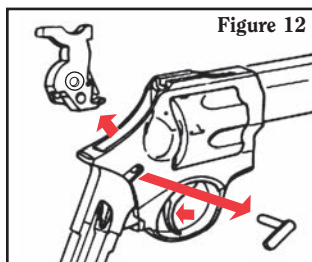

Figure 12
5. Hold the trigger in the rearward position and *lightly* strike the pivot pin to release it from the frame. Lift hammer out of the top of the frame while trigger is held in the rearward position (see Figure 12). **NOTE:** When removing the hammer ensure the two hammer shims on either side of the hammer stay under your control.